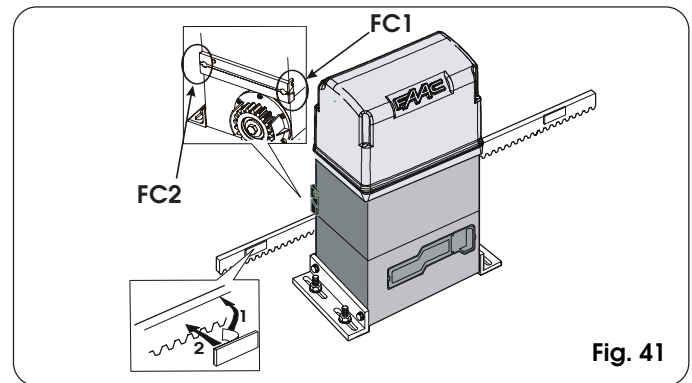
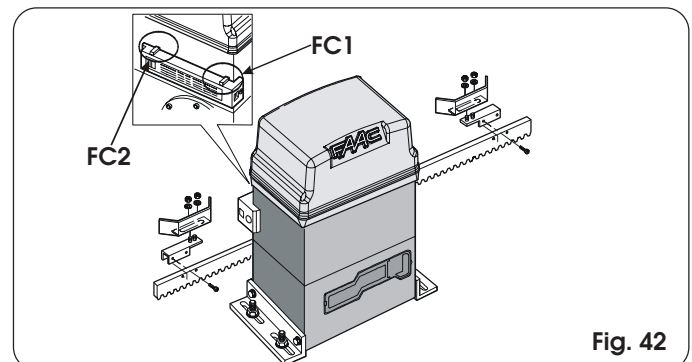

Fig. 41
Fig. 42
Operator 844 has a limit sensor switch which, by detecting the transit of a reference applied to the rack, commands the gate motor to stop. The device can be MLS (fig. 41) or inductive (fig. 42).
- 10) Clean the rack on its fitting points, remove the film on the adhesive parts of the magnets (fig. 41 ref. 1) and reposition the magnets with the adhesive strip in contact with the rack (fig. 41 ref. 2).
- 1) Assemble the limit-switch by centring the plate with respect to threaded pins of the support (Fig. 42).